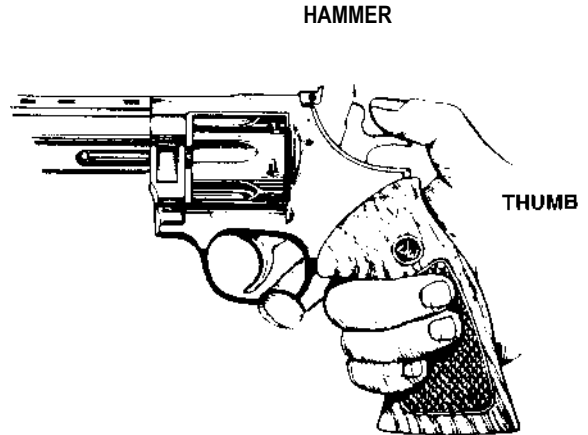

FIG. 2
1. Hold revolver by grip, keeping finger away from trigger. Using thumb, draw hammer fully back to the cocked position where it will remain (see Figure 2).